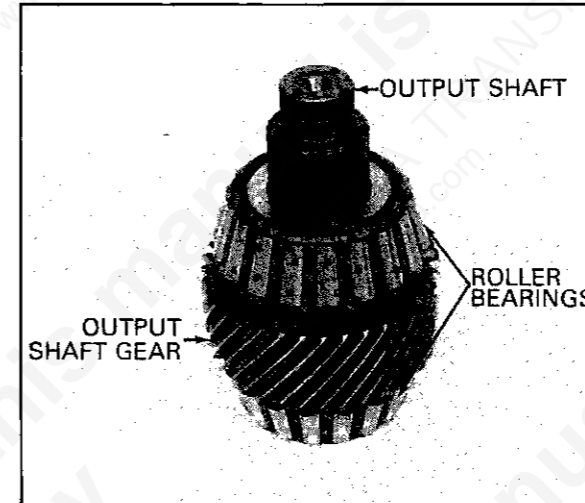

FIG. 37 OUTPUT SHAFT BEARINGS INSTALLATION
39. Press the output shaft front and rear bearings over the shaft and seat against the shoulder of the output shaft (Fig. 37).